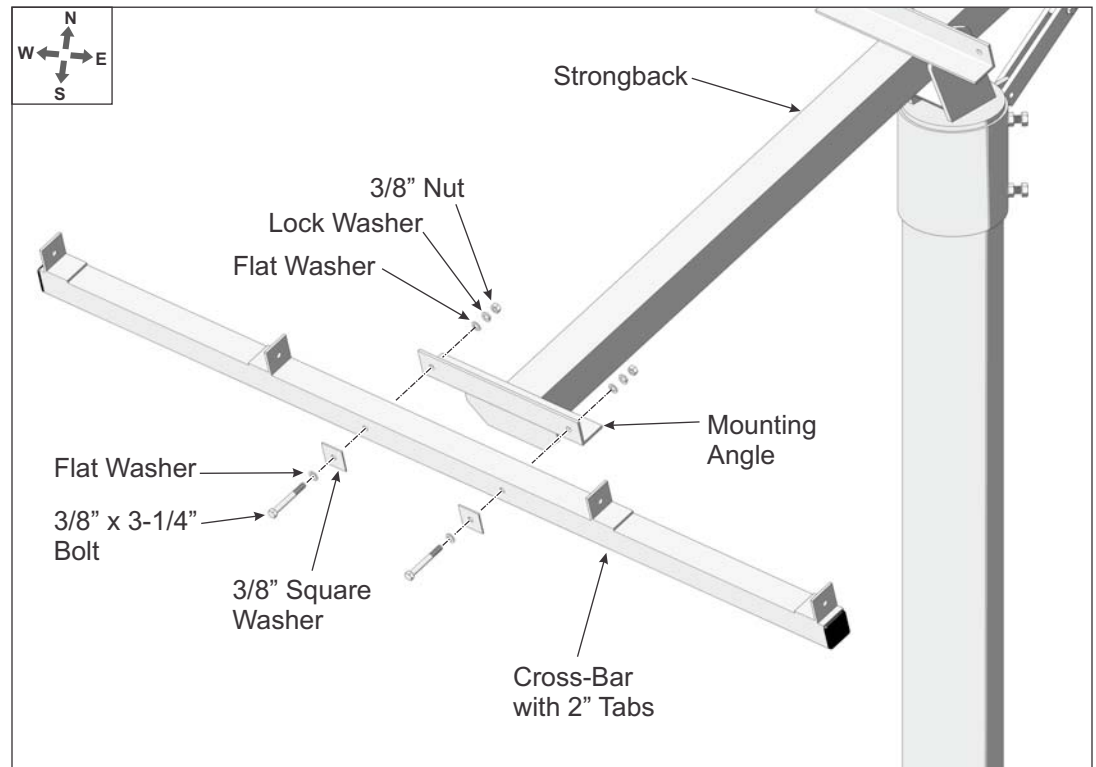

Figure 3-3: Installing Cross-Bars on the Strongback
- B. Position the Cross-Bar on the outside of the mounting angle of the Strongback. Align the mounting holes and secure using 3/8" flat and square washers along with the 3/8" x 3-1/4" bolts and lock washer placing the square flat washer against the Cross-Bar. Tighten hardware and **Torque to 30-32 ft.-lbs.** (See Figure 3-3)